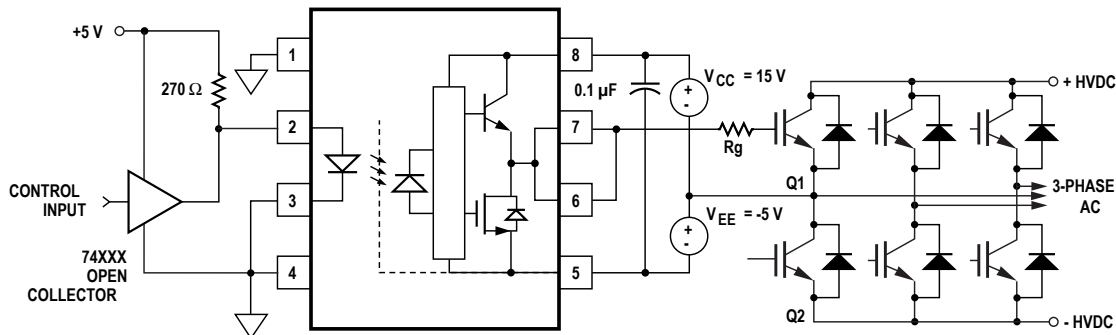

Figure 30. ACPL-3130 Typical Application Circuit with Negative IGBT Gate Drive.
Step 1: Calculate  $R_g$  minimum from the  $I_{OL}$  peak specification. The IGBT and  $R_g$  in Figure 30 can be analyzed as a simple RC circuit with a voltage supplied by the ACPL-3130.
For the circuit in Figure 30 with  $I_F$  (worst case) = 16 mA,  $R_g$